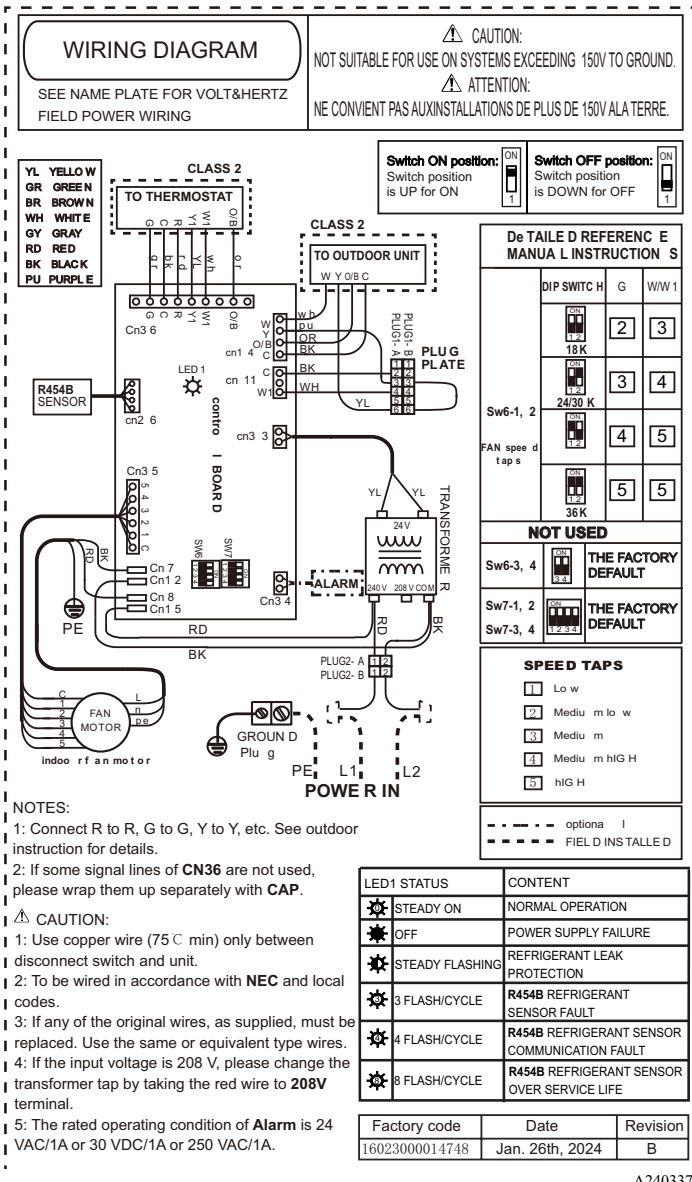

Fig. 7 – Wiring Diagram - ECM
**NOTE:** For field installed electric heat, the leads from the 6-pin connector (L1 and L2) will need to be disconnected so the electric heat can plug into that connector. Refer to Fig. 6 and Fig. 7, and the electric heat installation instructions for more details.